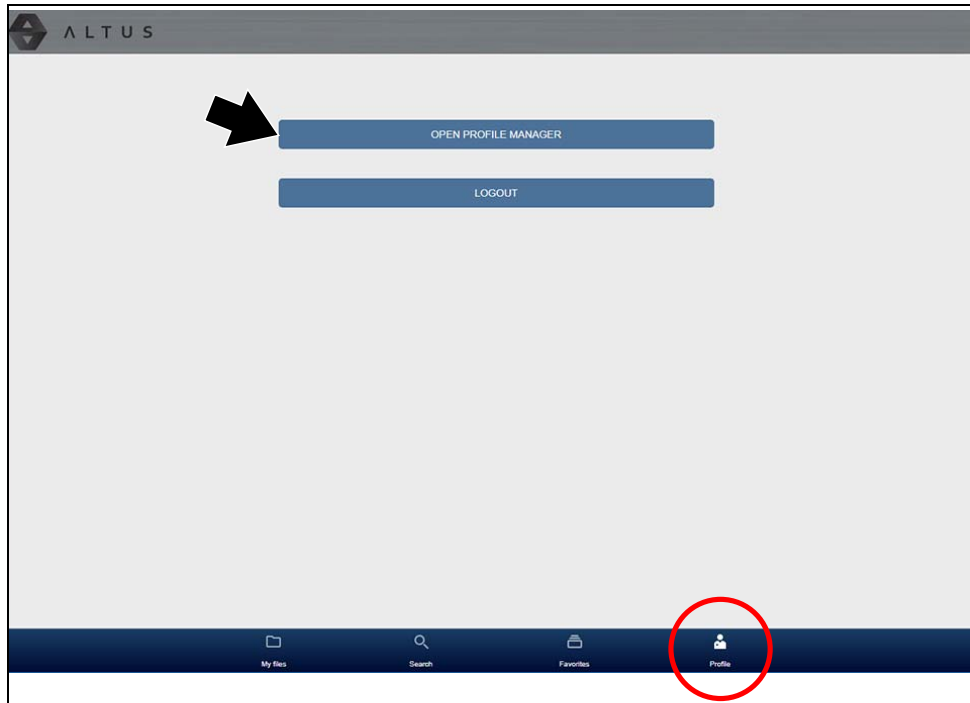

Figure 12-16
- Open Profile Manager (Figure 12-16), see Using Profile Manager on page 82
To open the Profile Manager screen, select **Profile** from lower toolbar, then select **Open Profile Manager** (Figure 12-16).